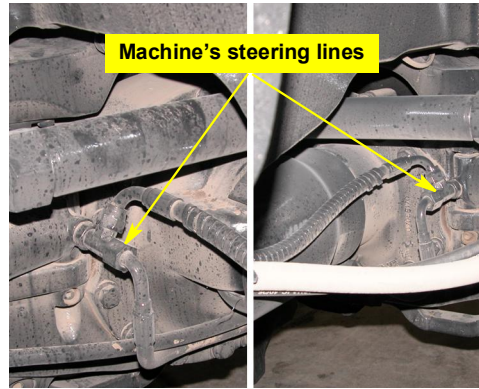

Figure 4a (L and R): Locating the steering lines
- a. Locate the machine steering lines attached to the steering cylinders at the front axle (Figure 4a L and R).